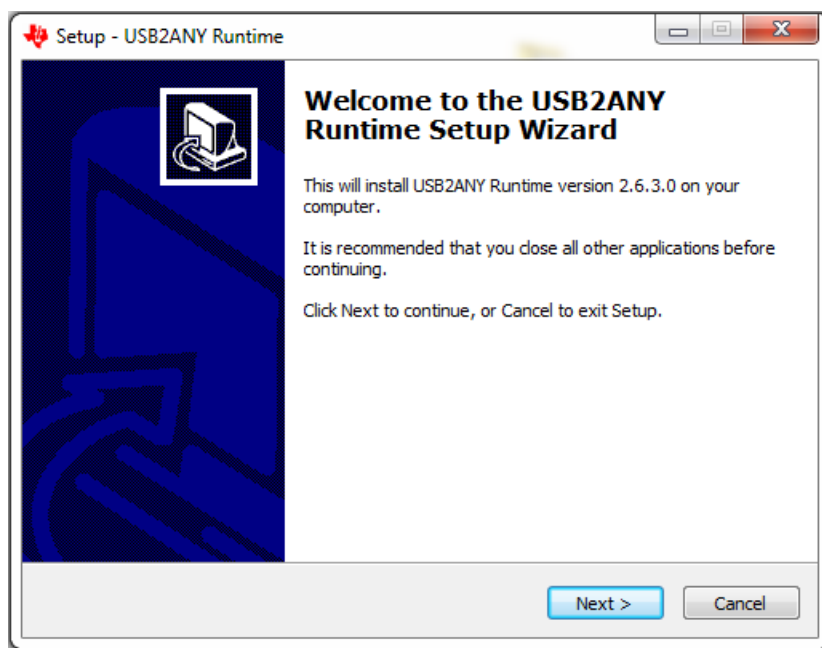

Figure 18. USB2ANY Installation Initialization
9. A screen as shown in Figure 18 appears, click the **Next >** button to proceed.